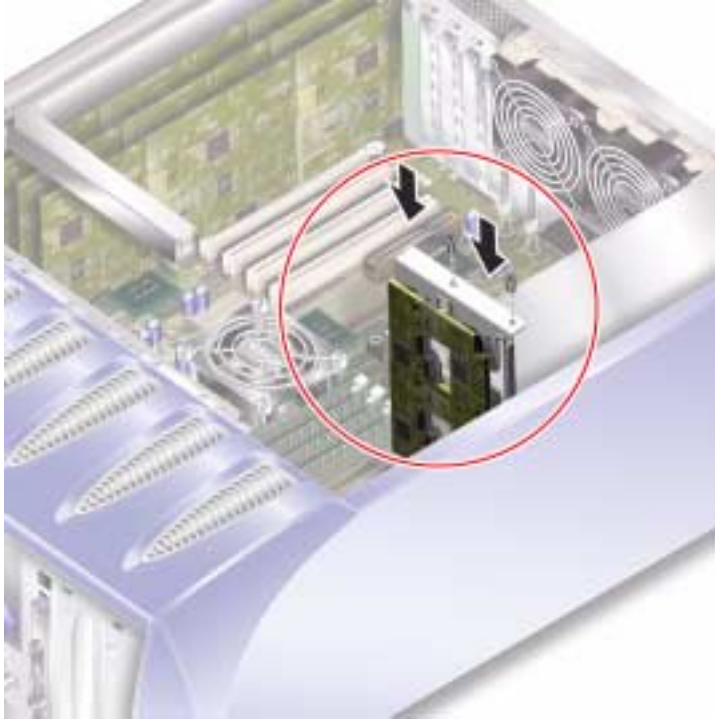

FIGURE 1-14 Power Distribution Board Replacement
1. Using the two locating pins at the bottom of the PDB as a guide, locate the unit in its correct position in the server. See FIGURE 1-14.